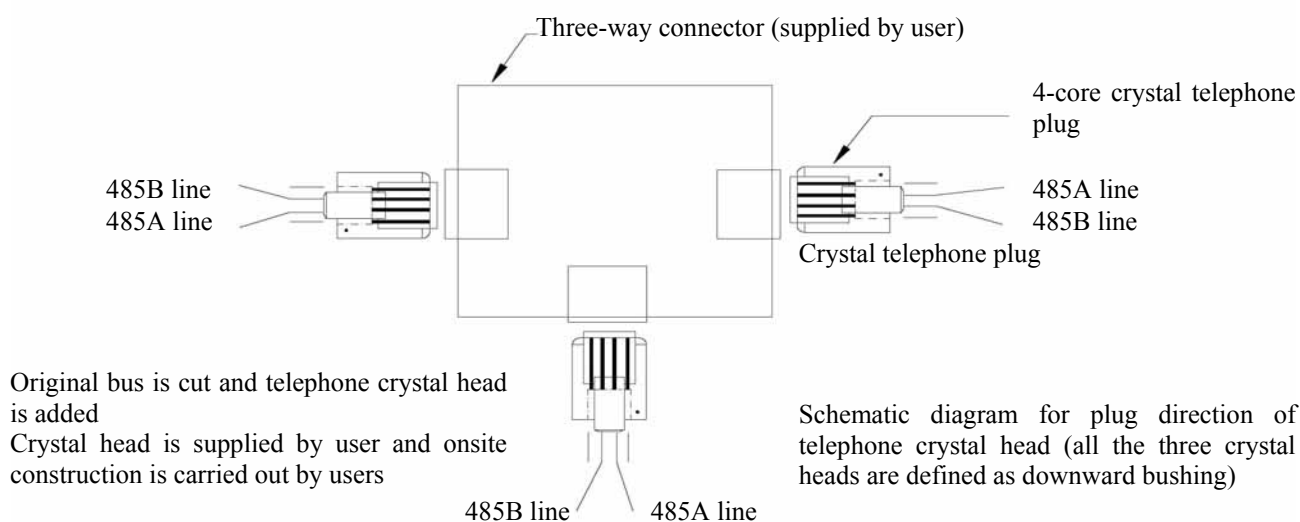

Figure 3 Telephone three-way connector and the plug direction
- (2) (in case that optical isolation repeater is not present) connected with connection board through communication wire S3
6. Communication control unit is connected with telephone three-way connector through communication wire S6, and the other two ends of this telephone three-way connector are connected with air conditioners. For detailed wiring diagram please refer to the Figure 4 and Figure 3 in "Wiring Schemes for Remote Monitoring of Commercial Air Conditioners".
10. Figure 3 is the telephone three-way connector and the plug direction